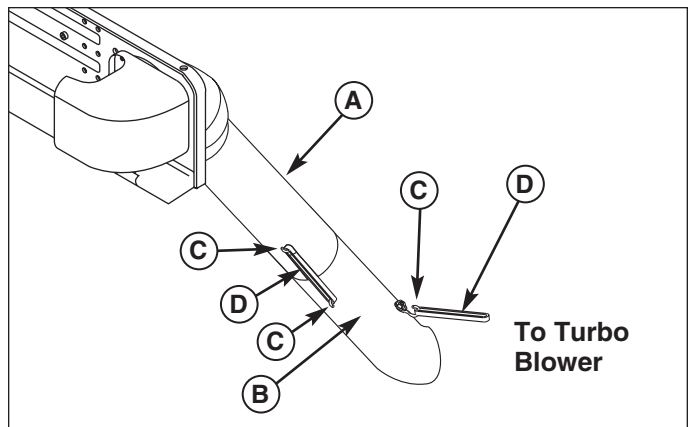

Figure 24. Assemble Tubes
5. Assemble the upper tube (A, Figure 24) and lower-tube (B) and attach them with a rubber strap (D). Attach to the collector. Attach tubes to the turbo blower with a rubber strap (D).